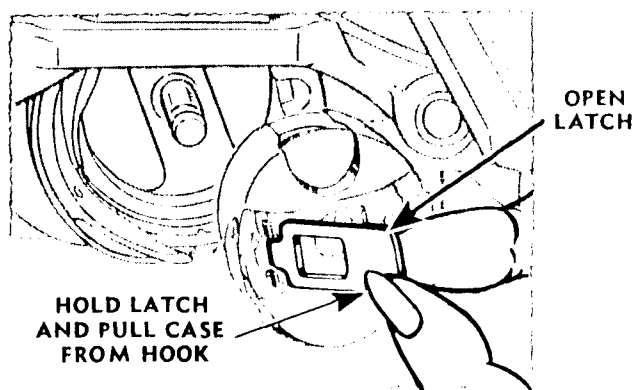

Fig. 12. Removing Bobbin Case from Sewing Hook
- Tip machine back—reach under machine bed, open latch and draw out bobbin case, as shown in Fig. 12.